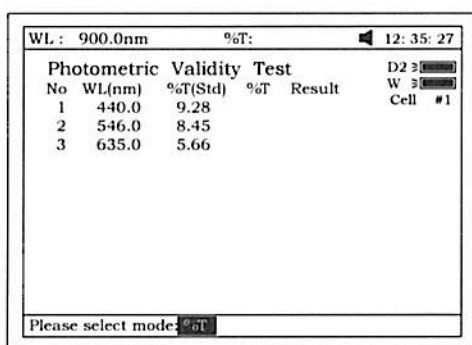

Fig 92
3. Press **【F2】** to select test mode (Abs or %T, Fig 92).